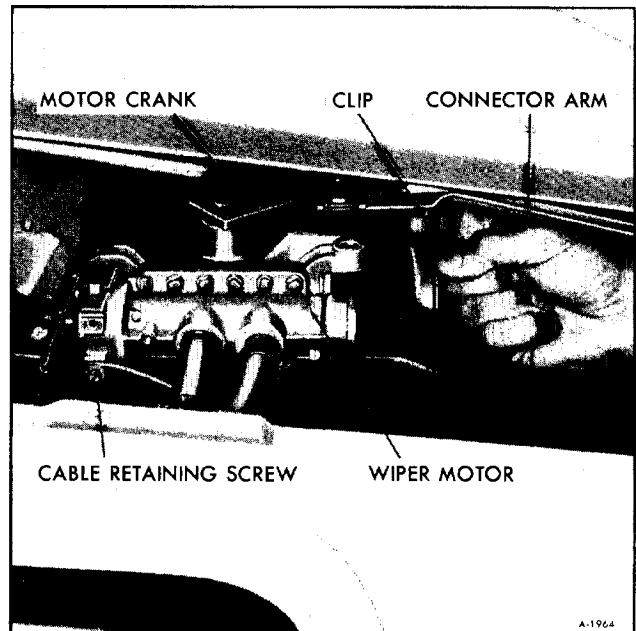

Figure 11-Removing Linkage
2. Remove linkage from wiper motor crank arm by sliding back clip(s) away from motor (figure 11).